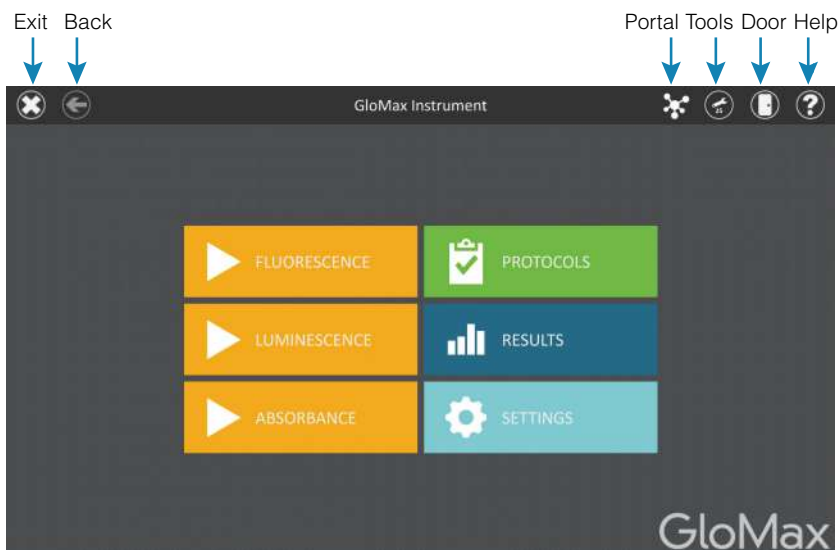

Figure 6. GloMax® Explorer software ‘Home’ screen.
2. Shut down the GloMax® Explorer Software by tapping on the x in the upper left corner (Figure 6).
1. Open the Door of the instrument by tapping the **Door** icon on the top right corner of the screen (Figure 6). When the plate tray extends, add the plate such that well A1 of the plate corresponds to the label “A1” on the plate tray (Figure 7).